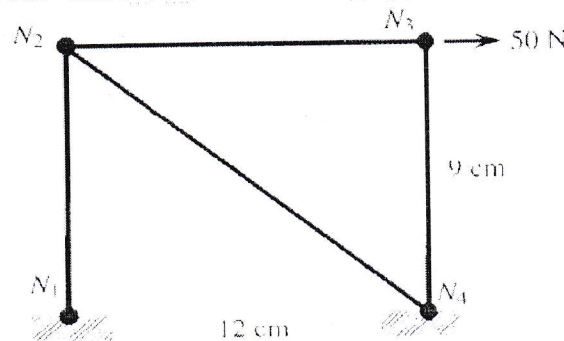

Figure 1
4. For a two-dimensional truss structure, as shown in the figure 1, determine displacements of the nodes and normal stresses developed in the members using FE. Use  $E = 30 \times 10^6 \text{ N/cm}^2$  and a diameter of the circular cross-section of 0.25 cm. [10]